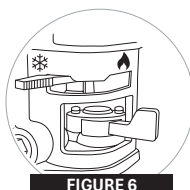

FIGURE 6
- WITH THE ENGINE, COOL OR FIRST START OF THE DAY, POSITION THE THROTTLE LEVER SLIGHTLY TO THE RIGHT (+) AND POSITION THE CHOKE LEVER IN THE CLOSED POSITION; **(FIGURE 6)**